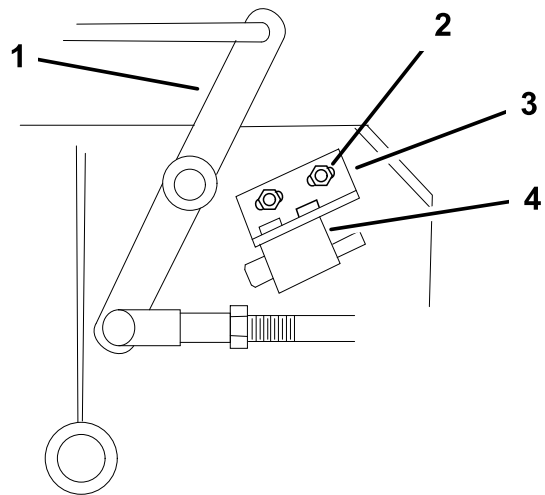

Figure 13
4. If needed, adjust the blade safety switch by loosening the bolts holding the switch bracket (Figure 13).
Make sure that the bellcrank **does not** touch the switch body or damage to the switch could occur (Figure 13).